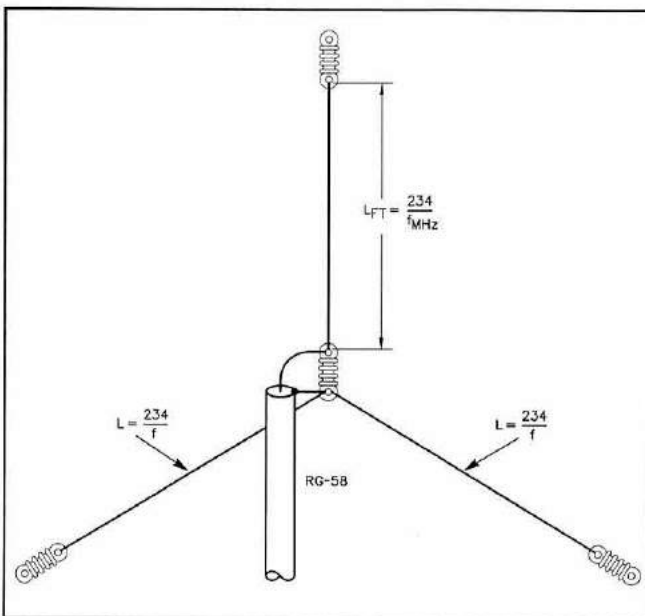

Fig 1-18—Dimensions and construction of the tree-mounted HF ground-plane antenna.
**A** Nothing prevents you from creating a ground-plane vertical antenna for the HF bands, assuming you have supports of sufficient height. A number of years ago Chuck Hutchinson, K8CH, ARRL Senior Assistant Technical Editor, described the HF ground-plane antenna shown in Fig 1-18.